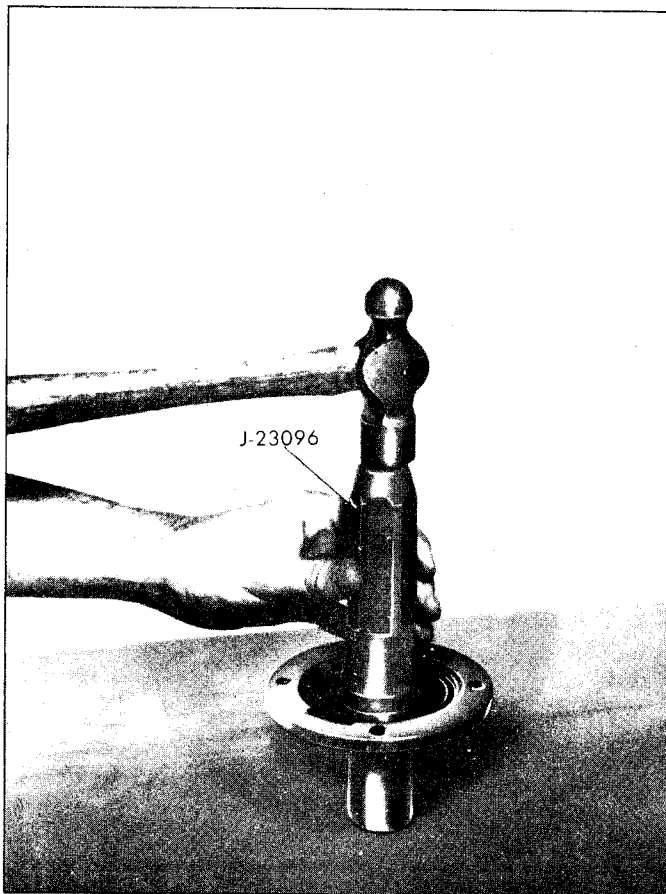

Fig. 7B-15K--Installing Rear Extension Seal
2. Remove bushing using Tool J-21465-17 with Handle J-8092. Drive bushing from rear of extension housing (Fig. 7B-14K).
4. Coat I.D. of bushing and seal with transmission lubricant. Install new seal using Tool J-21359 (Fig. 7B-15K).